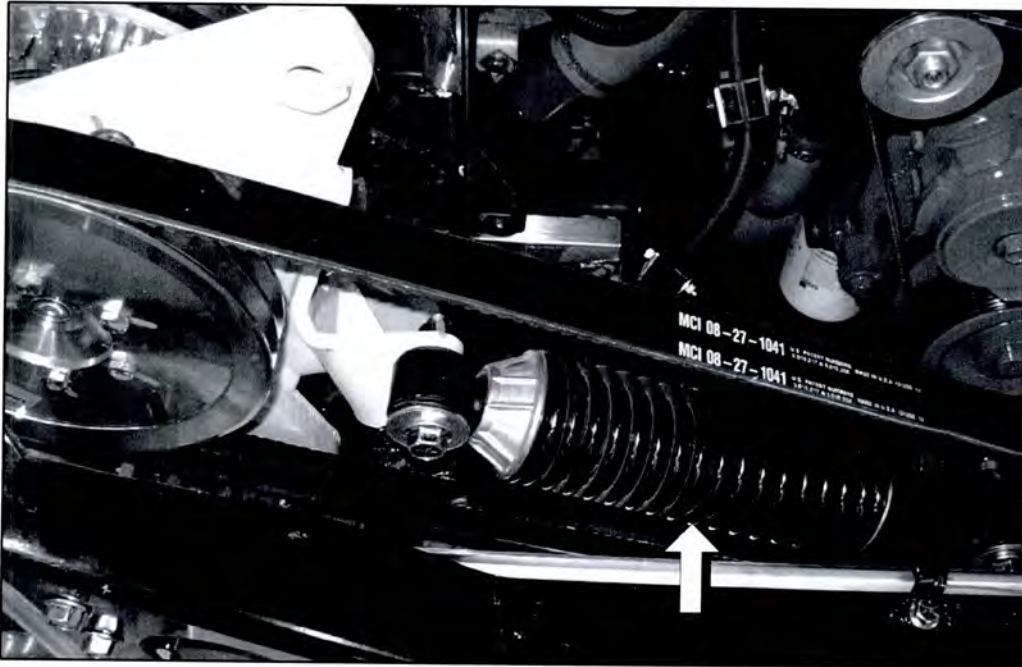

Figure 2.
5. Locate the belt tension shock assembly connected to the fan clutch installation (refer to Figure 2).